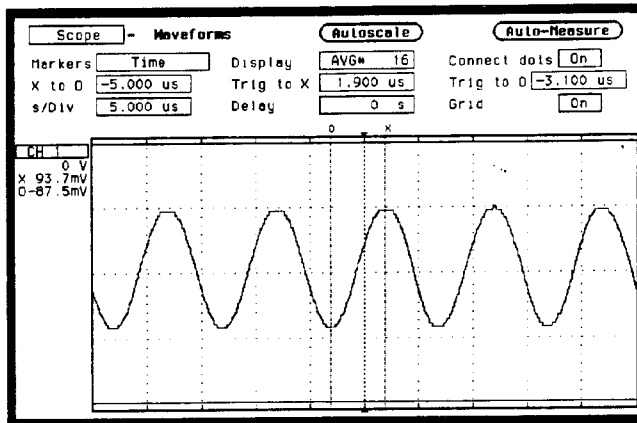

Figure 3-57. Waveforms Display Menu
11. After the measurement settles (averaging complete, about 10 seconds) use **Auto-Measure** to obtain a peak-to-peak voltage measurement as in figure 3-57.